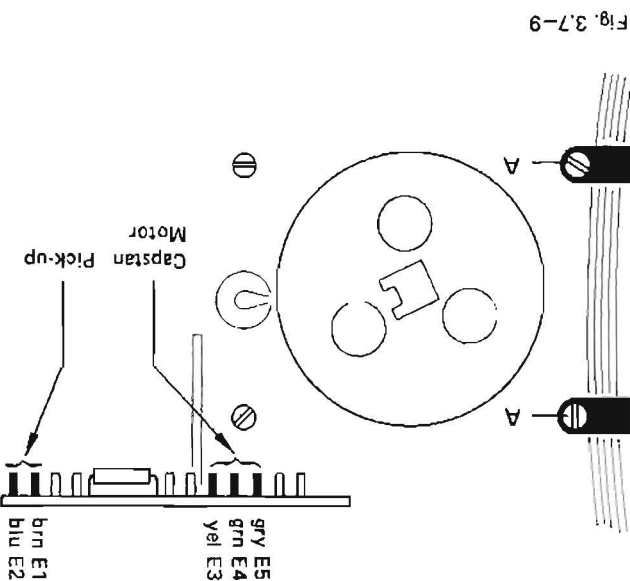

Fig. 3.7-9
- Undo cable clamps A (fig. 3.7-9).
- Disconnect capstan-motor and pick-up cables; connections are on control card (fig. 3.7-9).
- Disengage cable to capstan motor and pick-up on motor control board (fig. 3.7-9).